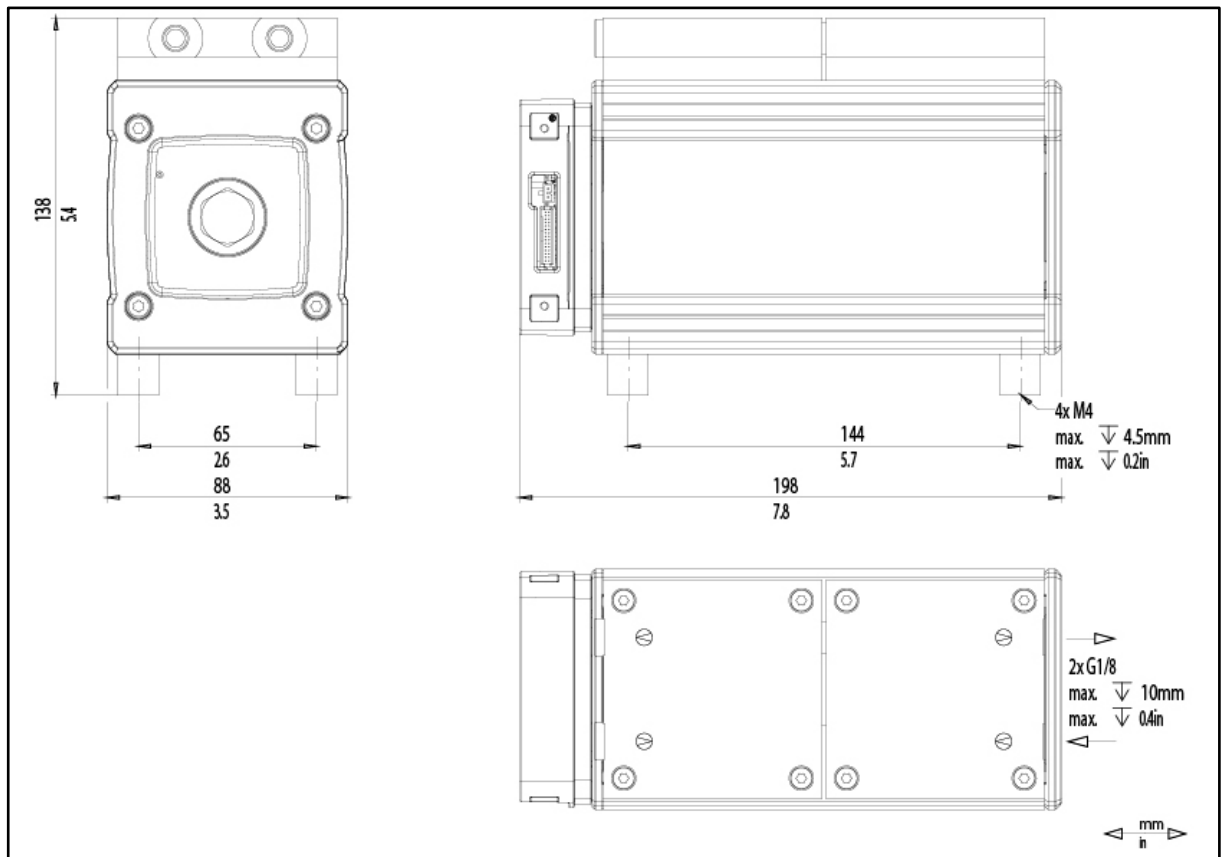
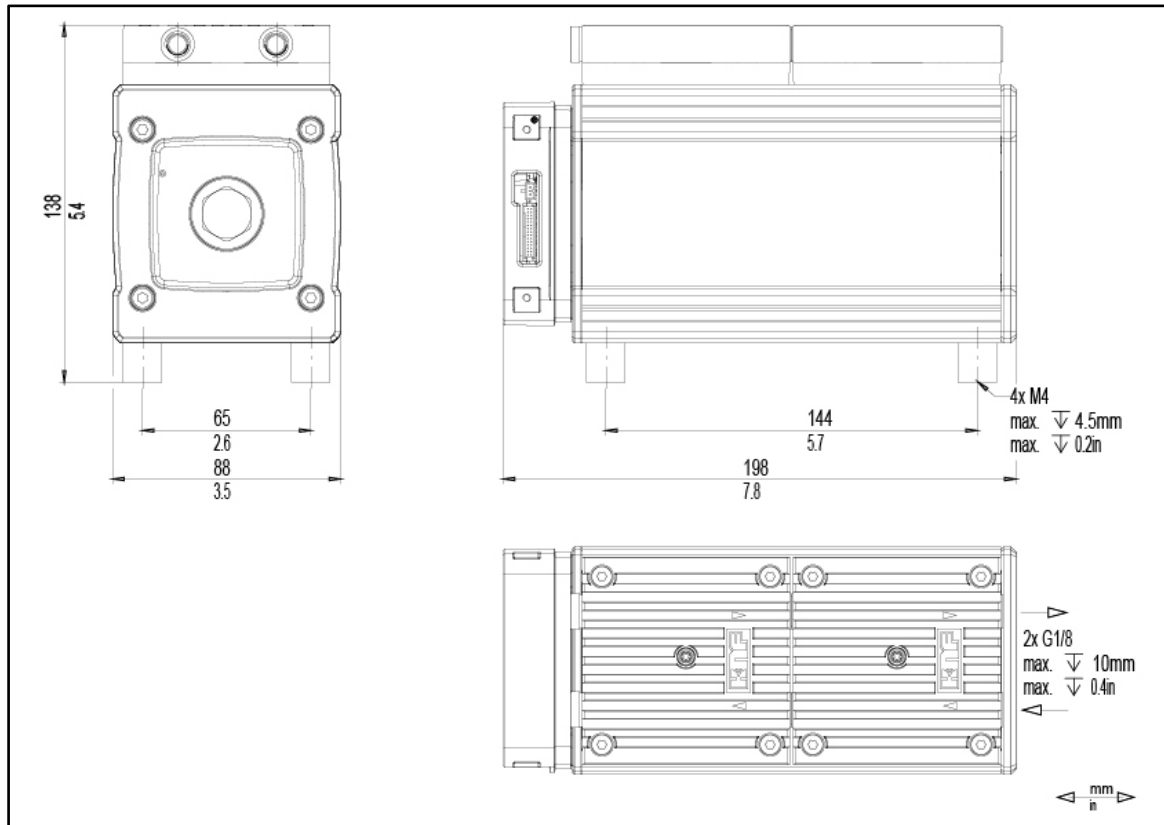

Fig. 4: Mounting dimensions of pump type MGP75-21ATV-XT
Fig. 5: Mounting dimensions of pump type MGP75-21K_V-XT
Dimensions	See Fig. 4 and Fig. 5, Chapter 6.1. Installing the pump.
- For mounting dimensions, see Fig. 4 and Fig. 5.